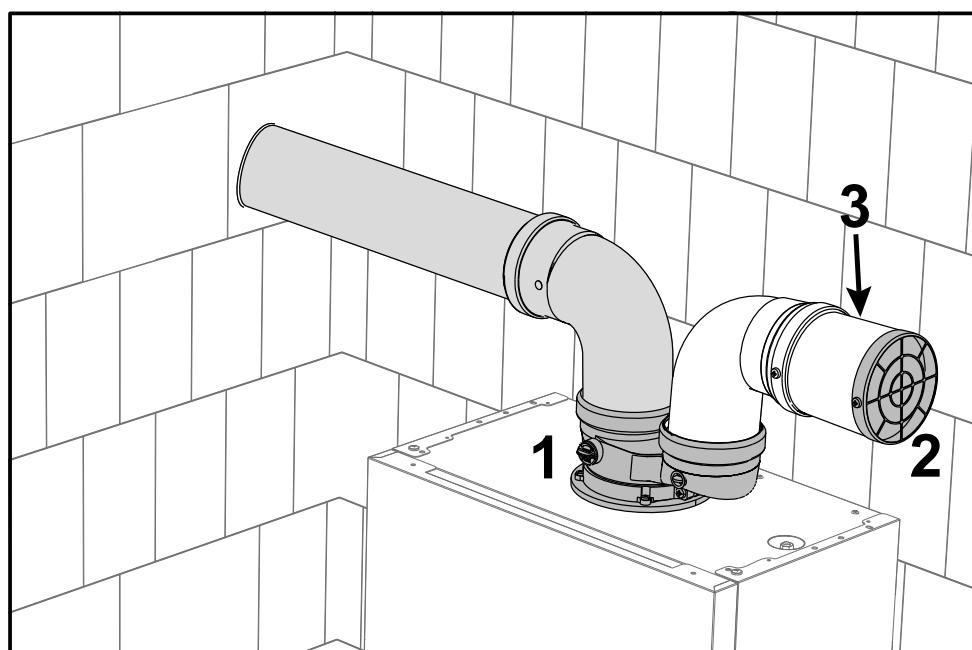

fig. 47- Protection grille
Install the starting accessory (ref. 1 fig. 47 - code **041082X0**). The protection grille must be mounted in the intake duct (ref. 2 - fig. 47 - code **1KWMA85A**). If necessary, insert a short piece (3) between the grille and the accessory.